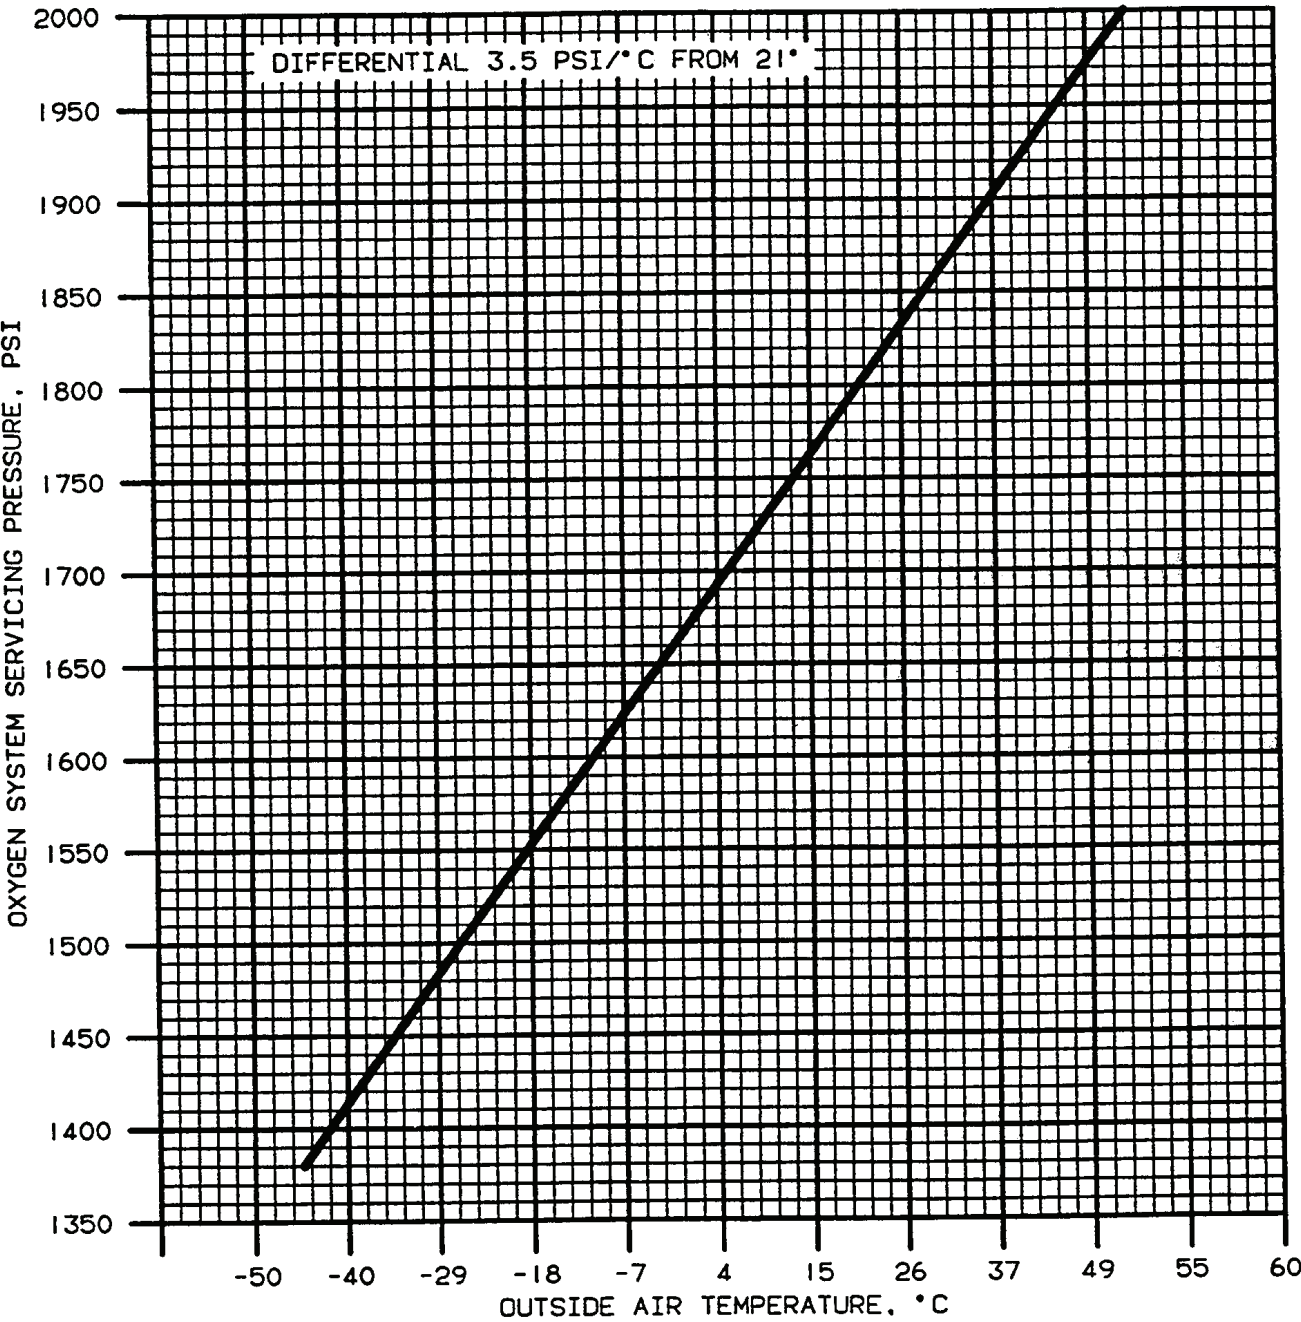

Figure 2-44. Oxygen System Servicing Pressure
6. Close pressure regulating valve on oxygen servicing unit when pressure gauge on oxygen system indicates pressure obtained using the Oxygen System Servicing Pressure Chart, Figure 2-44.
7. Adjust the final stabilized cylinder pressure for ambient temperature per Figure 2-44.